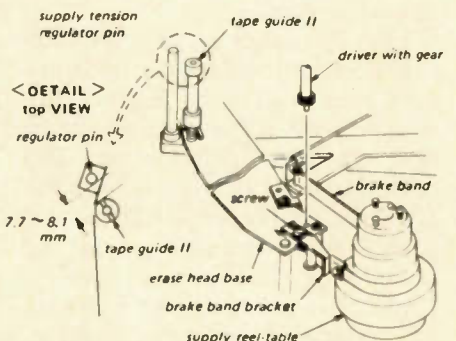

Figure 10
New brake band assemblies are mounted on a bracket that does not have gear teeth. The old units still have the gears. It is a simple matter to remount the new bands on the old brackets. After installing the new brake band, adjust the position of the supply tension regulator pin setting (Figure 10). Refer to section 13 of the technical manual for more detail.
17. Supply tension regulator pin position adjustment (Figure 10). This may have been done when changing the brake band. If not, do it now.